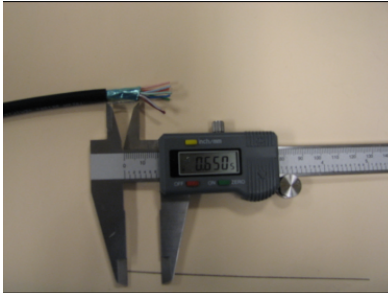

Figure A-4 Stripped jacket
Step 1 Carefully cut about 1.5 inches (approximately 4 cm) of the jacket. Be careful not to cut the foil that encases the wires. Vecima recommends that you use an exacta knife to score the length of jacket that you are removing, then use your needle-nose pliers to carefully split the jacket. If you happen to take off all the foil, simply remove more of the jacket. When complete, 0.65 inches (or 1.7 cm) of intact foil should be exposed and the wires should extend another 0.85 inches (or 2.2 cm) beyond that. See Figure Figure A-4.